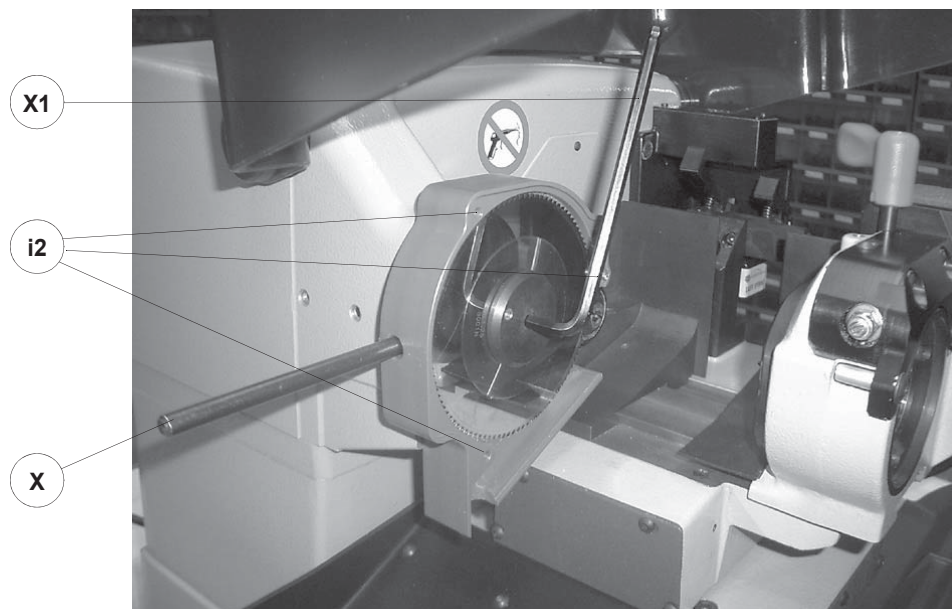

Fig. 18
- 3) slide the cutter release rod (X) into the hole located on the left side of the machines cutter shaft chassis (fig. 18).